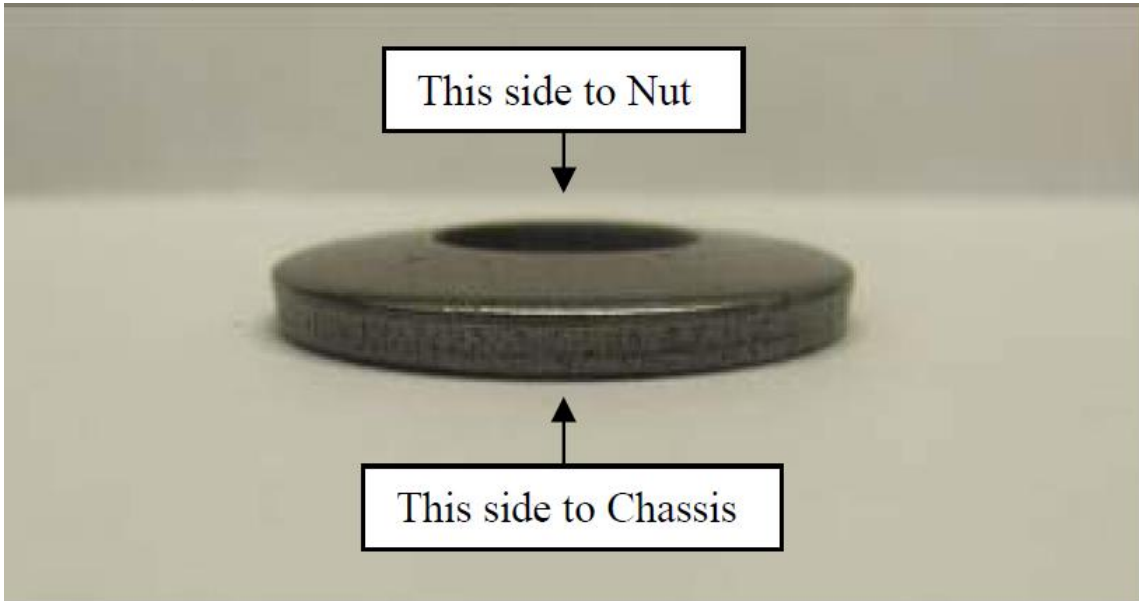

Figure 3. Washer configuration
6. Apply the **Belleville Washer (P/N 0011-623-000)** over the Caster Stem so that the beveled side is down, see Figure 3.